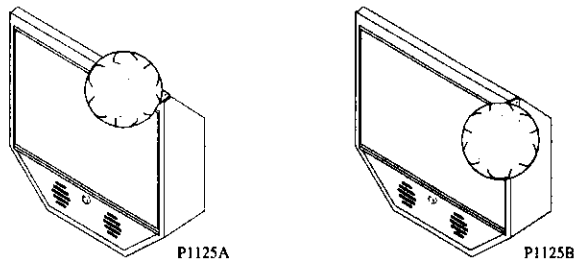

FIGURE 6A: POSITION "A" FIGURE 6B: POSITION "B"
11) Install display ball. Place the display ball on the backbox and choose mounting location "A" or "B", as shown below (see Figure 6A and 6B).